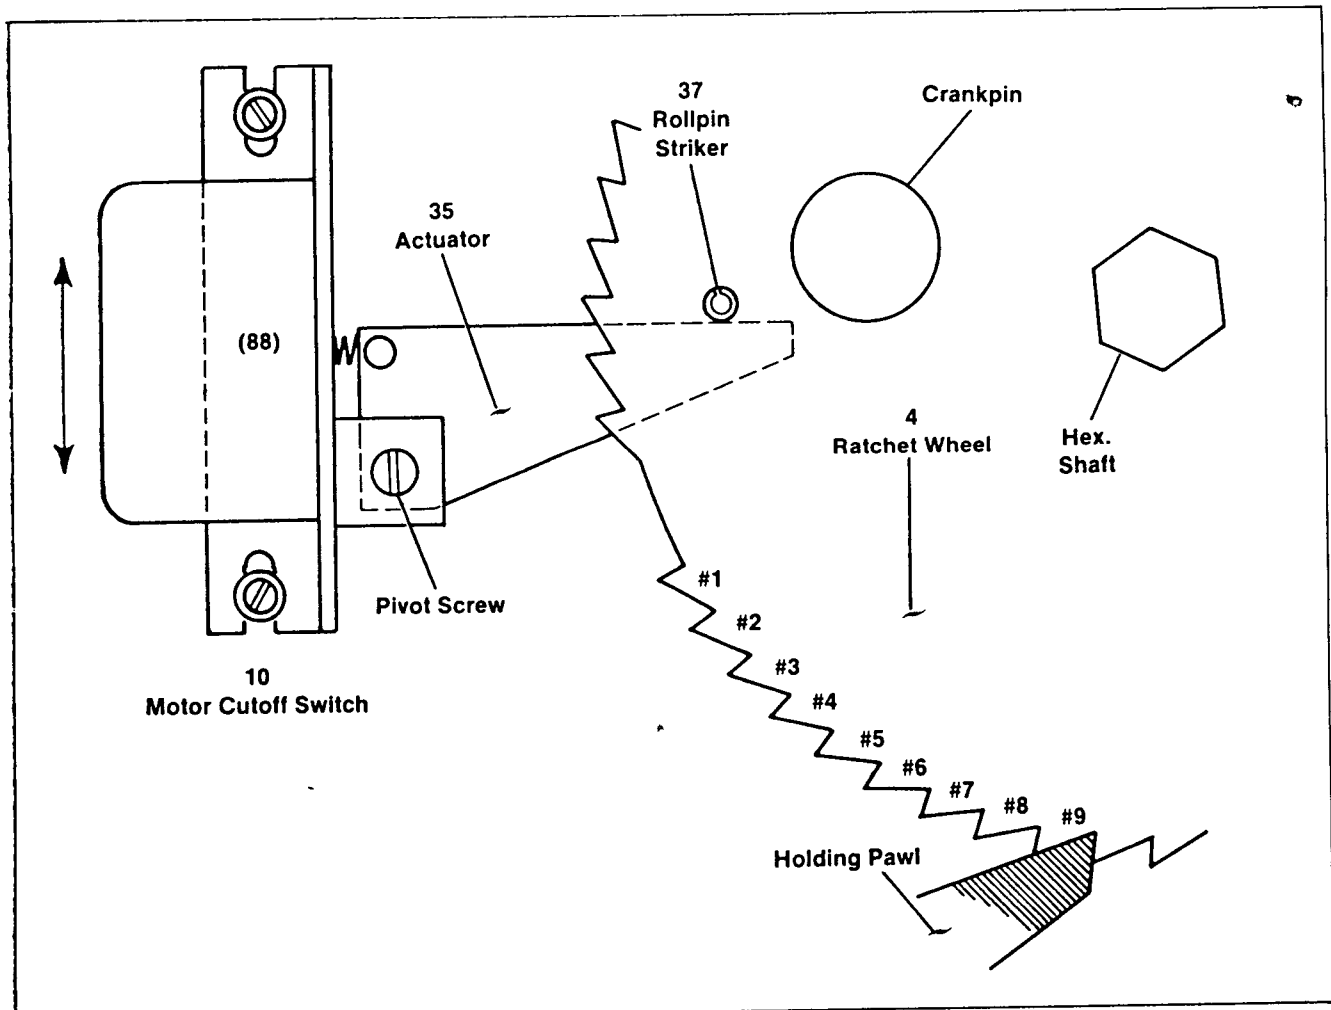

Figure 14. Motor Cutoff Switch
The 88 motor control switch assembly (Fig. 14) is factory adjusted. If it should become inoperative, entire unit must be removed and inspected for contact wear. Replacement may be necessary.
Advance ratchet and cam assemblies to position shown (Fig. 14). The holding pawl must occupy the ninth (9) tooth position on the ratchet as counted counterclockwise from area on ratchet periphery which lacks two teeth.